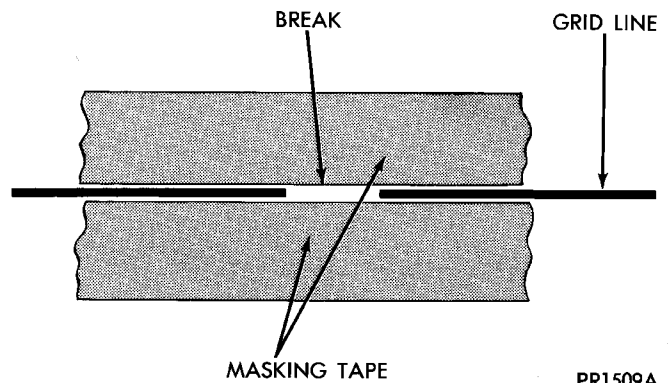

Fig. 6 Grid Line Repair
(1) Mask repair area so conductive epoxy can be extended onto the line or the bus bar (Fig. 6).
(2) Follow instructions in repair kit for preparing damaged area.
(3) Remove package separator clamp and mix plastic conductive epoxy thoroughly. Fold in half and cut center corner to dispense epoxy.
(4) For grid line, mark off area to be repaired with masking tape or a template (Fig. 6).
(5) Apply conductive epoxy through slit in masking tape. Overlap both ends of the break by 19 mm (3/4 inch).
(6) For a terminal or pigtail replacement, mask adjacent areas so epoxy can be extended onto line as well as bus bar. Apply a thin layer of epoxy to area where terminal was fastened and to adjacent line.
(7) Apply a thin layer of conductive epoxy on terminal and place terminal on desired location. To pre-